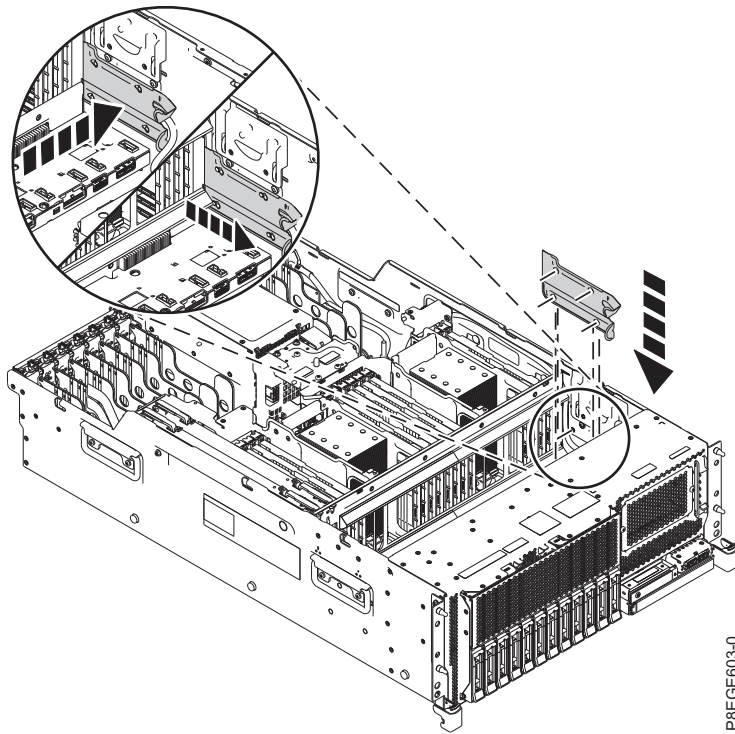

Figure 50. Replacing the USB cable cover
28. Replace the USB cable cover by inserting the slots on the cover over the pins on the chassis. Grasp the top handle of the cover and pull the cover toward the front of the system. Pull the cover forward until the slots are seated on the pins and the top handle of the cover latches. See Figure 50 on page 47.